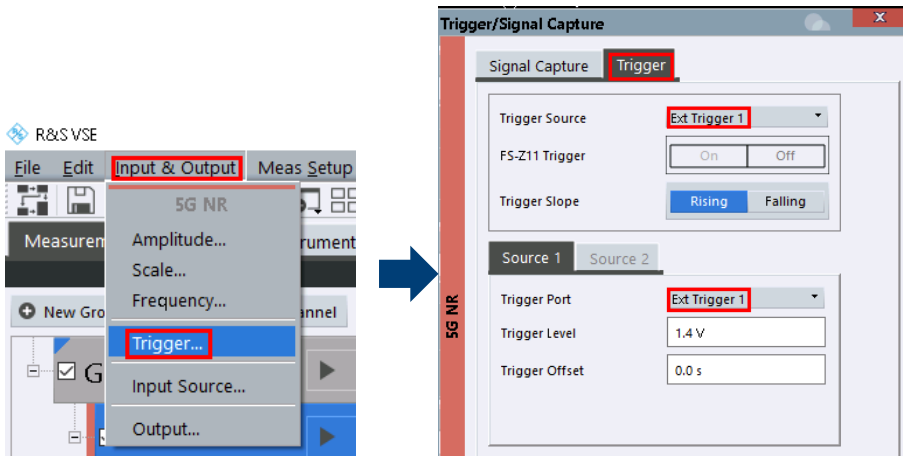

Fig. 3-16: Set trigger for RTP/RTO
- Set "External Trigger 1" as source trigger. See Fig. 3-16.